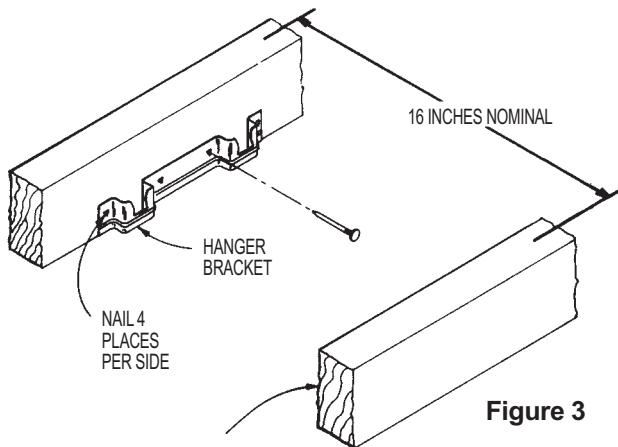

Figure 3
4. Nail both hanger brackets into sides of joists. Bottom edge of brackets should be even with bottom edge of joists. Use four nails per bracket, nailing through small triangular-shaped openings in brackets. **DO NOT RELY ON TRIANGULAR-SHAPED BARBS TO HOLD BRACKETS IN PLACE. BRACKETS MUST BE NAILED TO JOISTS.** See **Figure 3**.